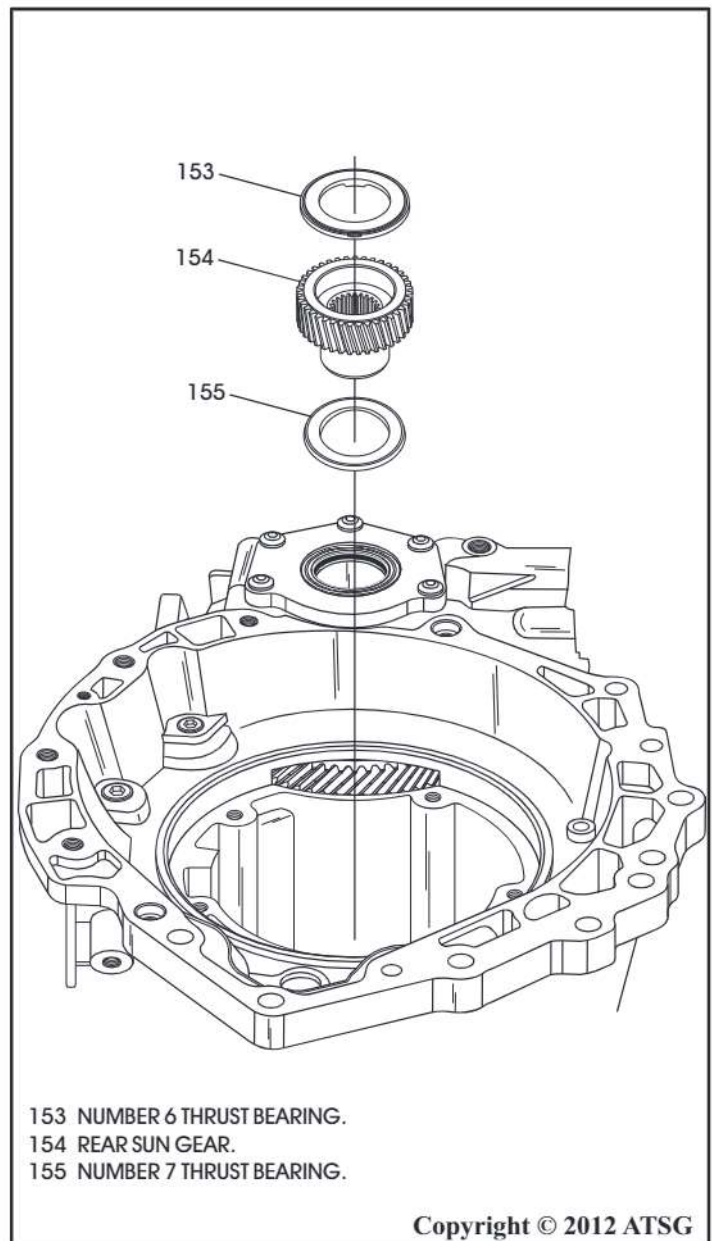

Figure 68
52. Remove the number 6 thrust bearing, as shown in Figure 68.
53. Remove the rear planetary sun gear, as shown in Figure 68.
54. Remove the number 7 thrust bearing, as shown in Figure 68.